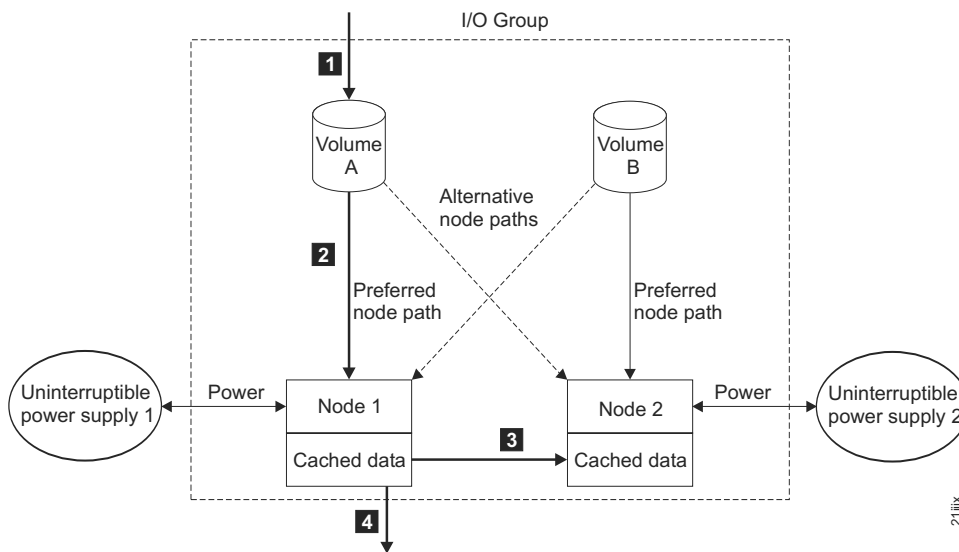

Figure 6. I/O group and uninterruptible power supply
- | Figure 6 on page 16 shows a write operation from a host (1), that is targeted for volume A. This write is targeted at the preferred node, Node 1 (2). The write is cached and a copy of the data is made in the
partner node, Node 2's cache (3). The host views the write as complete. At some later time, the data is written, or de-staged, to storage (4). Figure 6 also shows two uninterruptible power supply units correctly configured so that each node is in a different power domain.